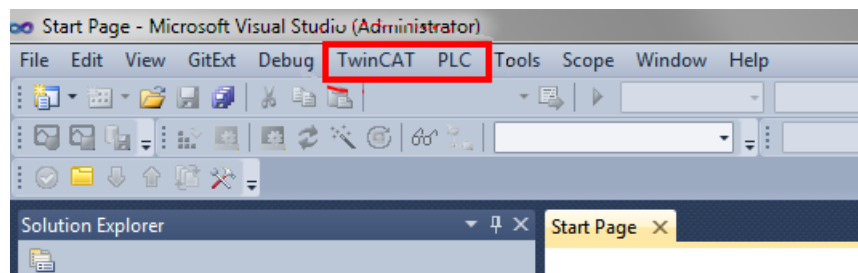

Figure 19. Visual Studio Menus for TwinCAT3
2. Verify that TwinCAT is running under Visual Studio. “TwinCAT” and “PLC” should both appear in the main toolbar as shown in 1. If these menu items are not shown, then the TC3 runtime is NOT running. Go back to step Figure 19 to restart the TC3 runtime.